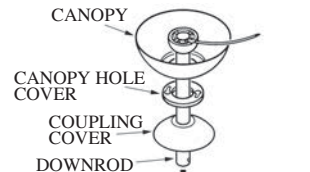

FIG.2
2. Insert the downrod through the center opening in the canopy and route the motor leads through the hanger ball/downrod assembly. Align the clevis pin holes in the downrod with the holes in the motor coupling. The clevis pin must pass through the holes in the motor coupling and the downrod. Place the washer onto the clevis pin and install the hairpin clip making sure to push straight leg of the hairpin clip through the hole near hanger ball to make sure the clevis pin is properly installed (see Fig.2)